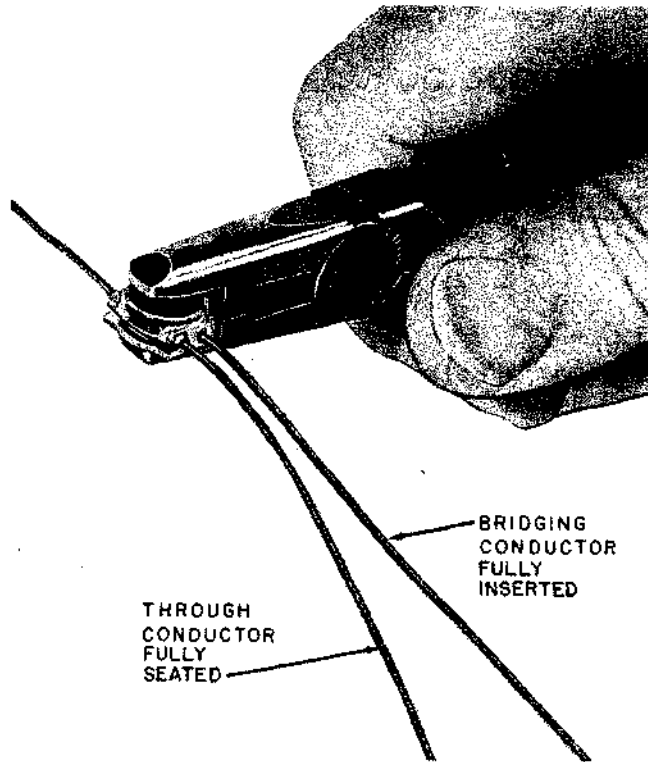

Fig. 5—Connector With Through Conductor and Bridging Conductor Before Pressing
- (3) Position the connector on the through conductor by sliding it to the desired location.
- (4) Fully insert the free end of the bridging conductor into the blind hole of the connector (Fig. 5).